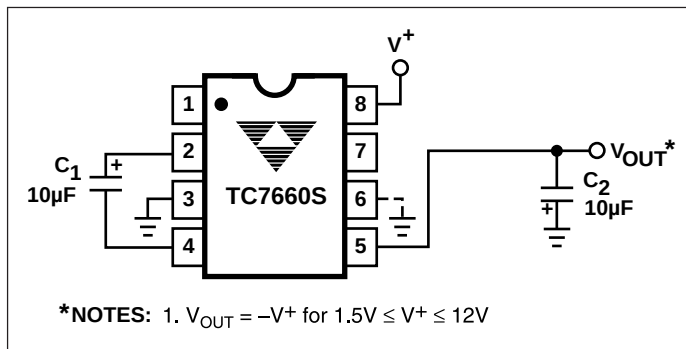
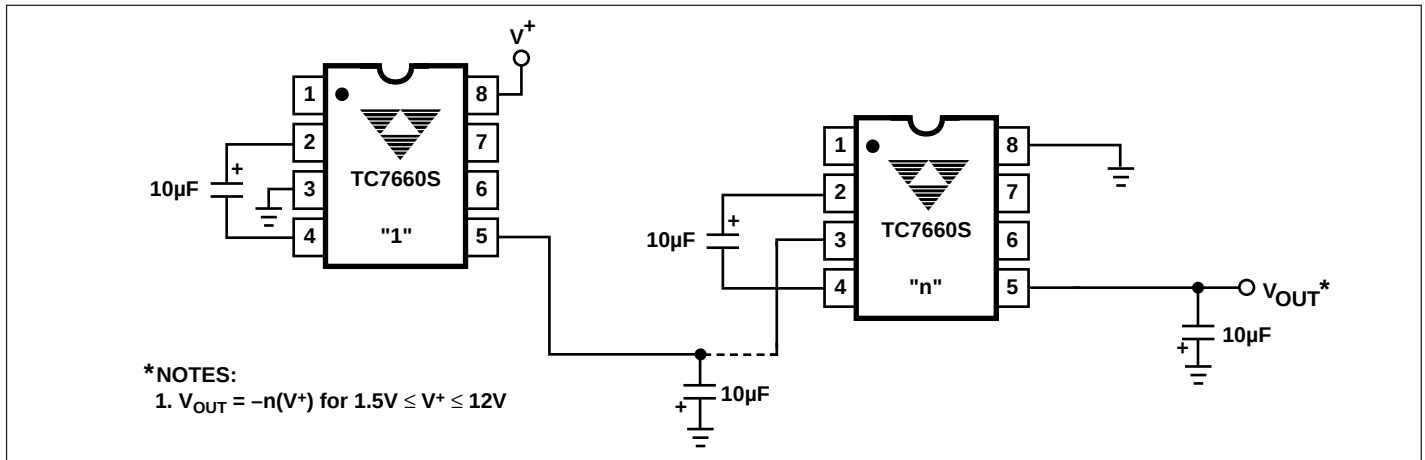
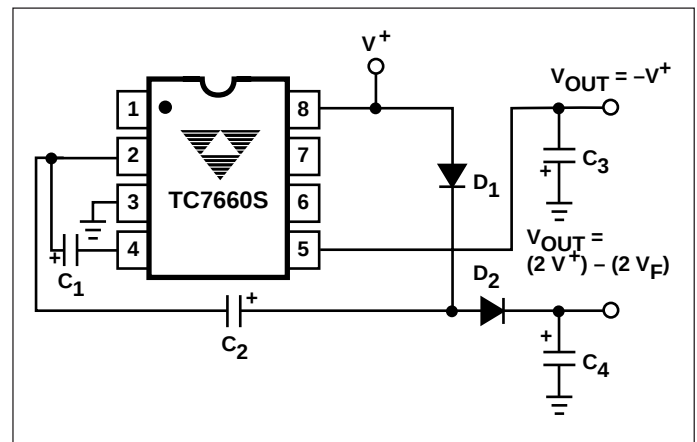
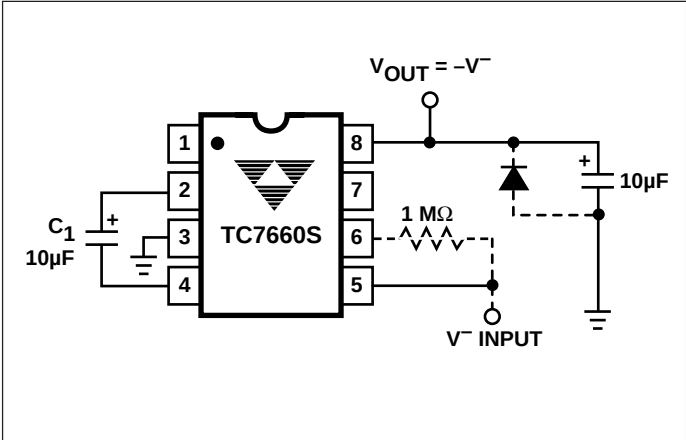

Figure 3. Simple Negative Converter
Figure 5. Increased Output Voltage by Cascading Devices
Figure 9. Combined Negative Converter and Positive Multiplier
Figure 10. Positive Voltage Multiplier
Figure 3 shows typical connections to provide a negative supply where a positive supply is available. A similar scheme may be employed for supply voltages anywhere in the operating range of +1.5V to +12V, keeping in mind that pin 6 (LV) is tied to the supply negative (GND) only for supply voltages below 3.5V.
The output characteristics of the circuit in Figure 3 are those of a nearly ideal voltage source in series with 70Ω . Thus, for a load current of $-10mA$ and a supply voltage of +5V, the output voltage would be $-4.3V$.
The TC7660S may be cascaded as shown (Figure 5) to produce larger negative multiplication of the initial supply voltage. However, due to the finite efficiency of each device, the practical limit is 10 devices for light loads. The output voltage is defined by:
Figure 9 combines the functions shown in Figures 3 and 8 to provide negative voltage conversion and positive voltage multiplication simultaneously. This approach would be, for example, suitable for generating +9V and -5V from an existing +5V supply. In this instance, capacitors C_1 and C_3 perform the pump and reservoir functions, respectively, for the generation of the negative voltage, while capacitors C_2 and C_4 are pump and reservoir, respectively, for the multiplied positive voltage. There is a penalty in this configuration which combines both functions, however, in that the source impedances of the generated supplies will be somewhat higher due to the finite impedance of the common charge pump driver at pin 2 of the device.
Since the switches that allow the charge pumping operation are bidirectional, the charge transfer can be performed backwards as easily as forwards. Figure 10 shows a TC7660S transforming -5V to +5V (or +5V to +10V, etc.). The only problem here is that the internal clock and switch-drive section will not operate until some positive voltage has been generated. An initial inefficient pump, as shown in Figure 9, could be used to start this circuit up, after which it
will bypass the other (D_1 and D_2 in Figure 9 would never turn on), or else the diode and resistor shown dotted in Figure 10 can be used to "force" the internal regulator on.
The same bidirectional characteristics used in Figure 10 can also be used to split a higher supply in half, as shown in Figure 11. The combined load will be evenly shared between the two sides. Once again, a high value resistor to the LV pin ensures start-up. Because the switches share the load in parallel, the output impedance is much lower than in the standard circuits, and higher currents can be drawn from the device. By using this circuit, and then the circuit of Figure 5, +15V can be converted (via +7.5V and -7.5V) to a nominal -15V, though with rather high series resistance (~250Ω).